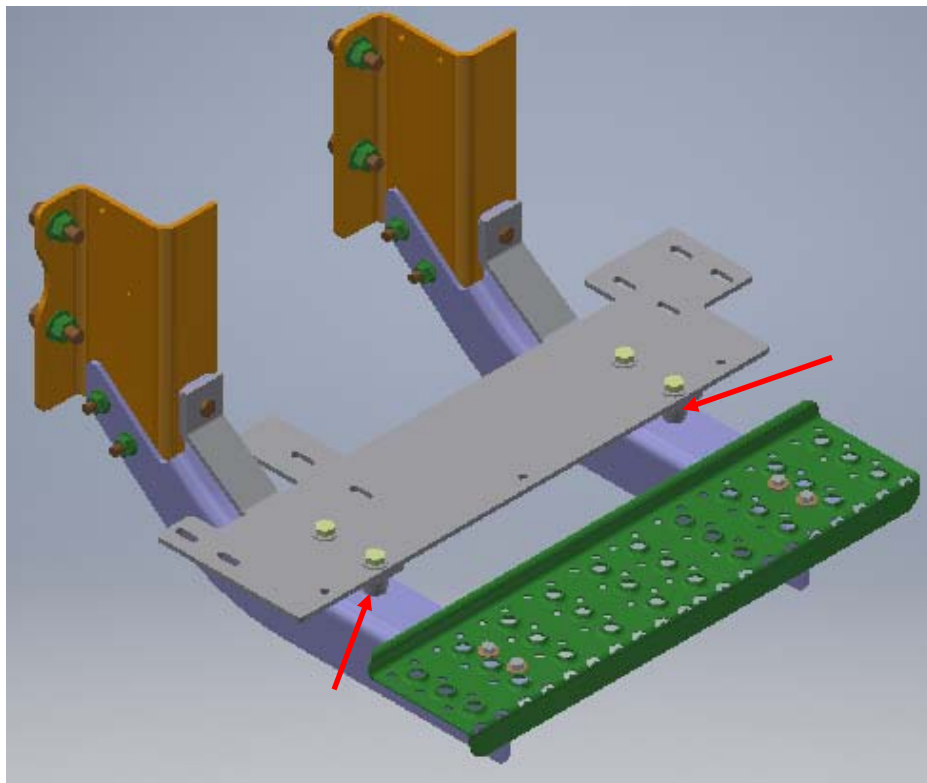

Figure 3: Spacer Location
5. Place Spacers (R-20454) under the Pump Plate Supports and lay the Pump Plate (R-20451) on top of the Support Brackets. Used supplied 1/2" x 2 1/2" bolts and associated hardware to fasten the Pump Plate to the Support Brackets and step bracket. (Figure 3)